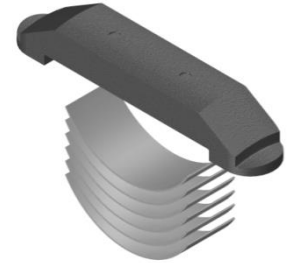

Fig. 4
**NOTE6:** Install six (6ea) springs per block (Fig. 4).